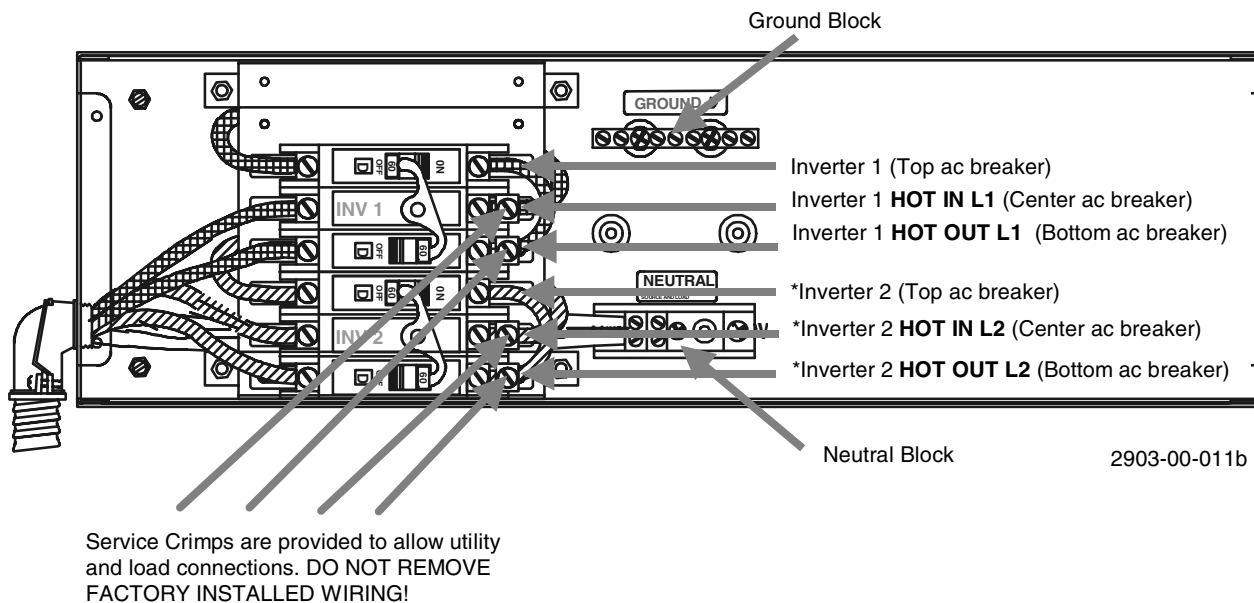

Figure 13
- Connect the L1 (Hot-black) wire to the INVERTER 1 HOT IN L1 (center ac breaker) as indicated in Figures 13 and 15.
- *Connect the L2 (Hot-red) wire to the INVERTER 2 HOT IN L2 (center ac breaker) as indicated in Figures 13 and 15.
- Connect the L1 (Hot-black) wire to the INVERTER 1 HOT OUT L1 as indicated in Figures 13 and 16.
- *Connect the L2 (Hot-red) wire to the INVERTER 2 HOT OUT L2) as indicated in Figures 13 and 16.